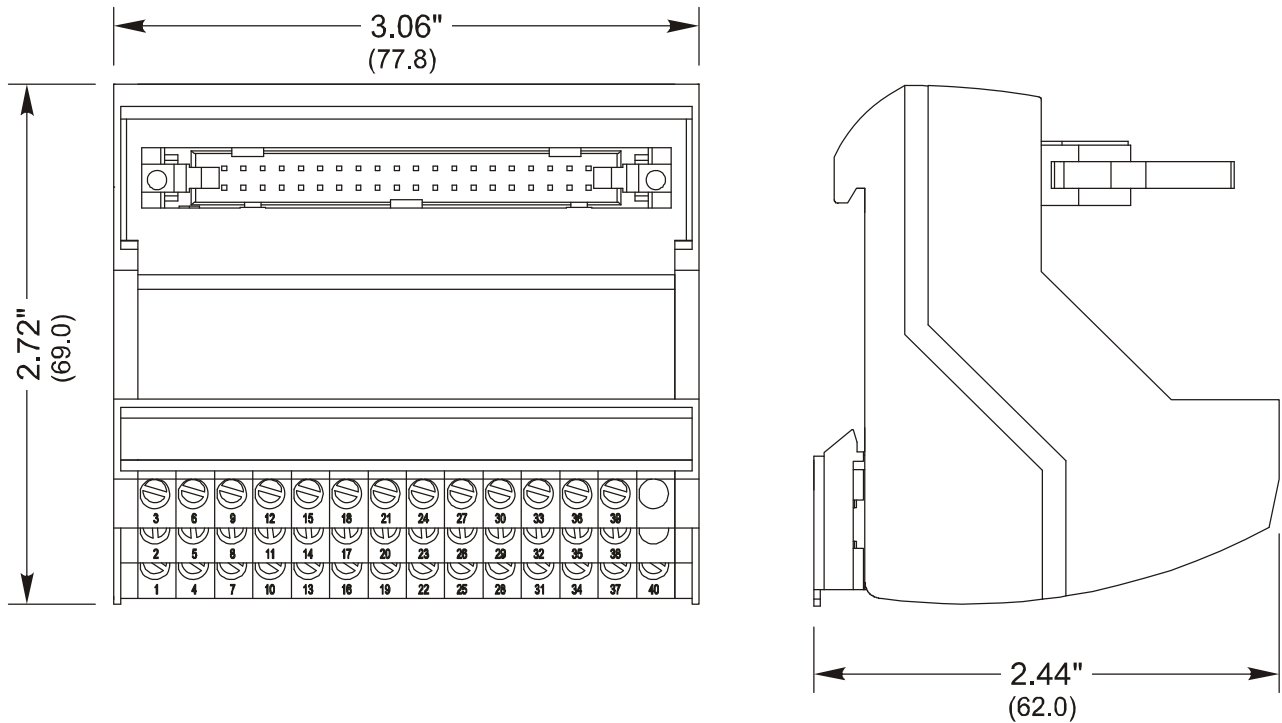

Figure 2.5 IM-(X) Interface Module Outline Drawing
You can easily install the IM-(X) Interface Module using the plastic tabs on the bottom of the module shown in Figure 2.5 below. The module can be mounted on following DIN Rails
Figure 2.5 also provides the dimensions of the module, which has a connector for the ribbon cable from an iPLC Controller and a 40-pin output terminal block for transferring output signals from the controller to a PLC or computer.